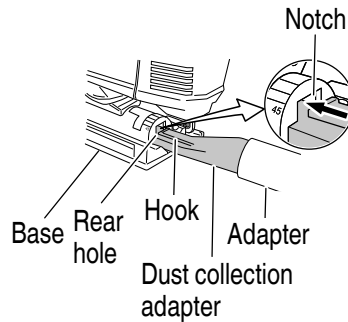

Fig. 22
- (5) Insert dust collection adapter into the rear hole of the base until the hook catches in the notch. (**Fig. 22**)
- (6) Press the hook to remove the dust collection adapter.